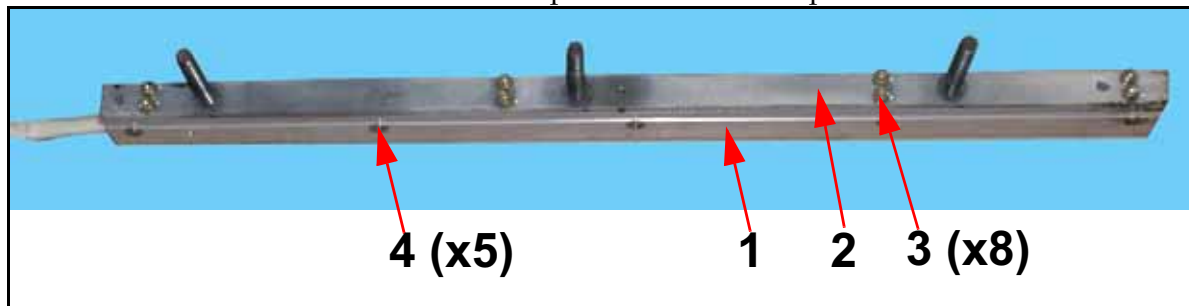

Figure 7-45. Tightening Seal Bar Screws.
- 7 Insert thermocouple into thermocouple hole (1 in Figure 7-45). Jiggle upper bar (2) until thermocouple is fully seated against heater element.
- 8 Tighten eight top screws (3) and five side screws (4).